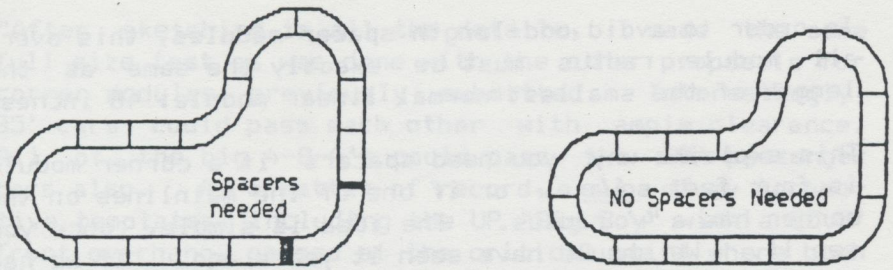

Figure 2: Spacers in a modular layout
- The corner modules should be designed so that they can be freely combined with 4' linear modules into complex shapes without the need for odd-sized "spacer" modules, as illustrated in Figure 2.